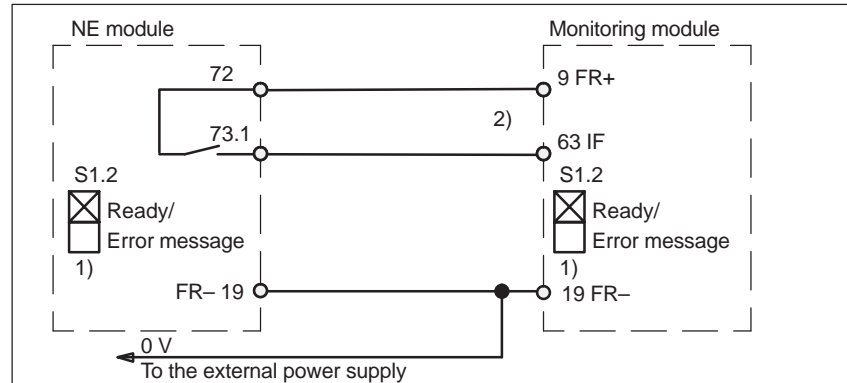

Fig. 8-5 Instantaneous shutdown, pulse enable
- Instantaneous shutdown, pulse enable —> refer to Fig. 8-5